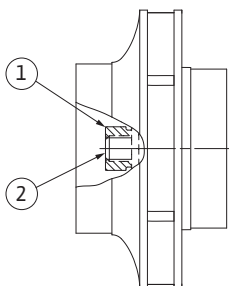

Fig. 49: Correct position of the impeller nut after the installation
29. Hold on to the shaft (see step 24) and tighten the impeller nut with the specified tightening torque (see Tab. 2 “Screw tightening torques”). The nut (Fig. 49, Item 1) has to be about ± 0.02 in (± 0.5 mm) flush with the end of the shaft (Fig. 49, Item 2). If this is not the case, release the nut and repeat steps 25 to 29.